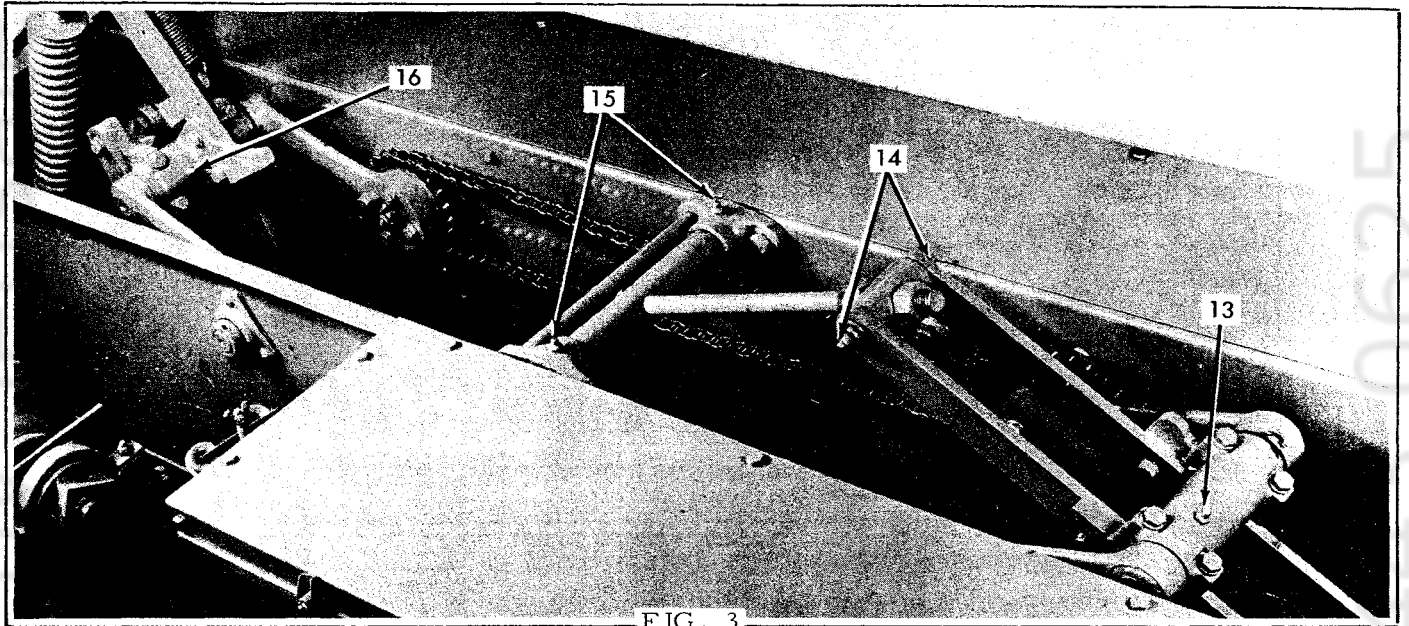

FIG. 3
- 13. R.H. feed rake bearing (Fig. 3).
- 14. R.H. feed rake pivot (front & rear) (Fig. 3)
- 15. R.H. feed rake anchor (front & rear) (Fig. 3)
- 16. L.H. feed rake bearing (Fig. 3)